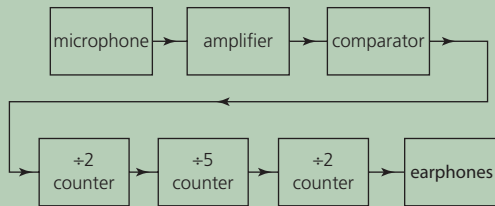

Figure Q8
- b. Bats navigate using ultrasonic waves between 30 kHz and 60 kHz. A student designs the system in Figure Q8 to investigate these sounds.